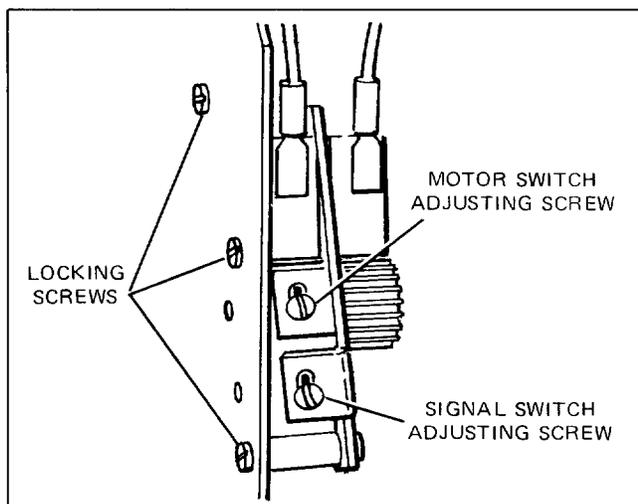

Figure 5-3. AR Switch Adjustment
b. SIGNAL AND MOTOR SWITCHES. (See Figure 5-3.)